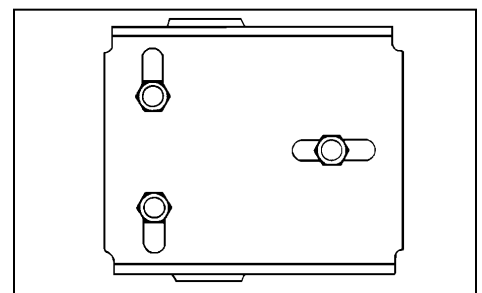

Fig. 2: Mounting instruction
- B. The winch should be mounted, using three 3/8" dia. S.A.E. Grade 5 bolts (not supplied). Two bolts should attach the winch to the mounting structure utilizing the outside rear holes or slots. The third bolt should be inserted through the winch frame and mounting structure in a manner to utilize the foremost remaining frame slot (hole) (Fig. 2).